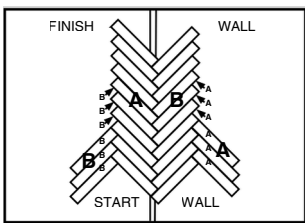

Figure 7
- Starting at the designated start wall, angle a "B" plank into the long side of an installed "A" plank. Slide it back into the end joint and lower it until fully locked (Fig. 7).